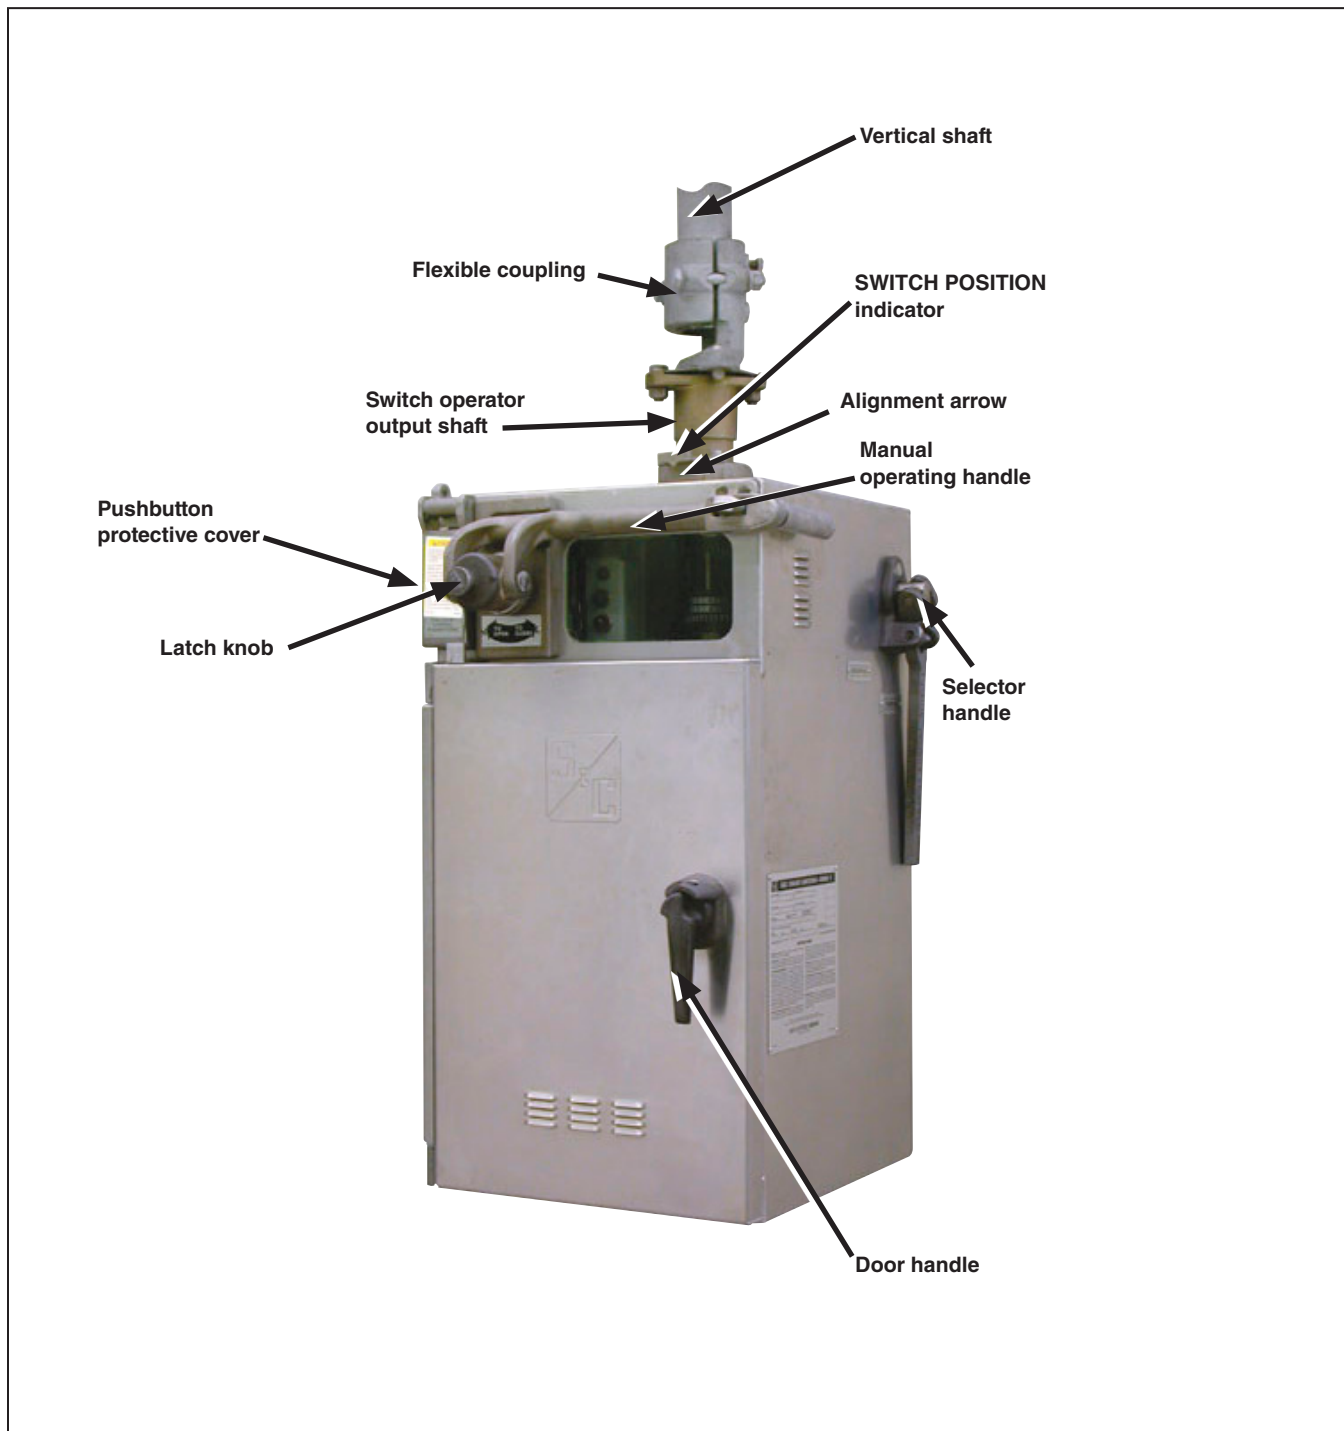
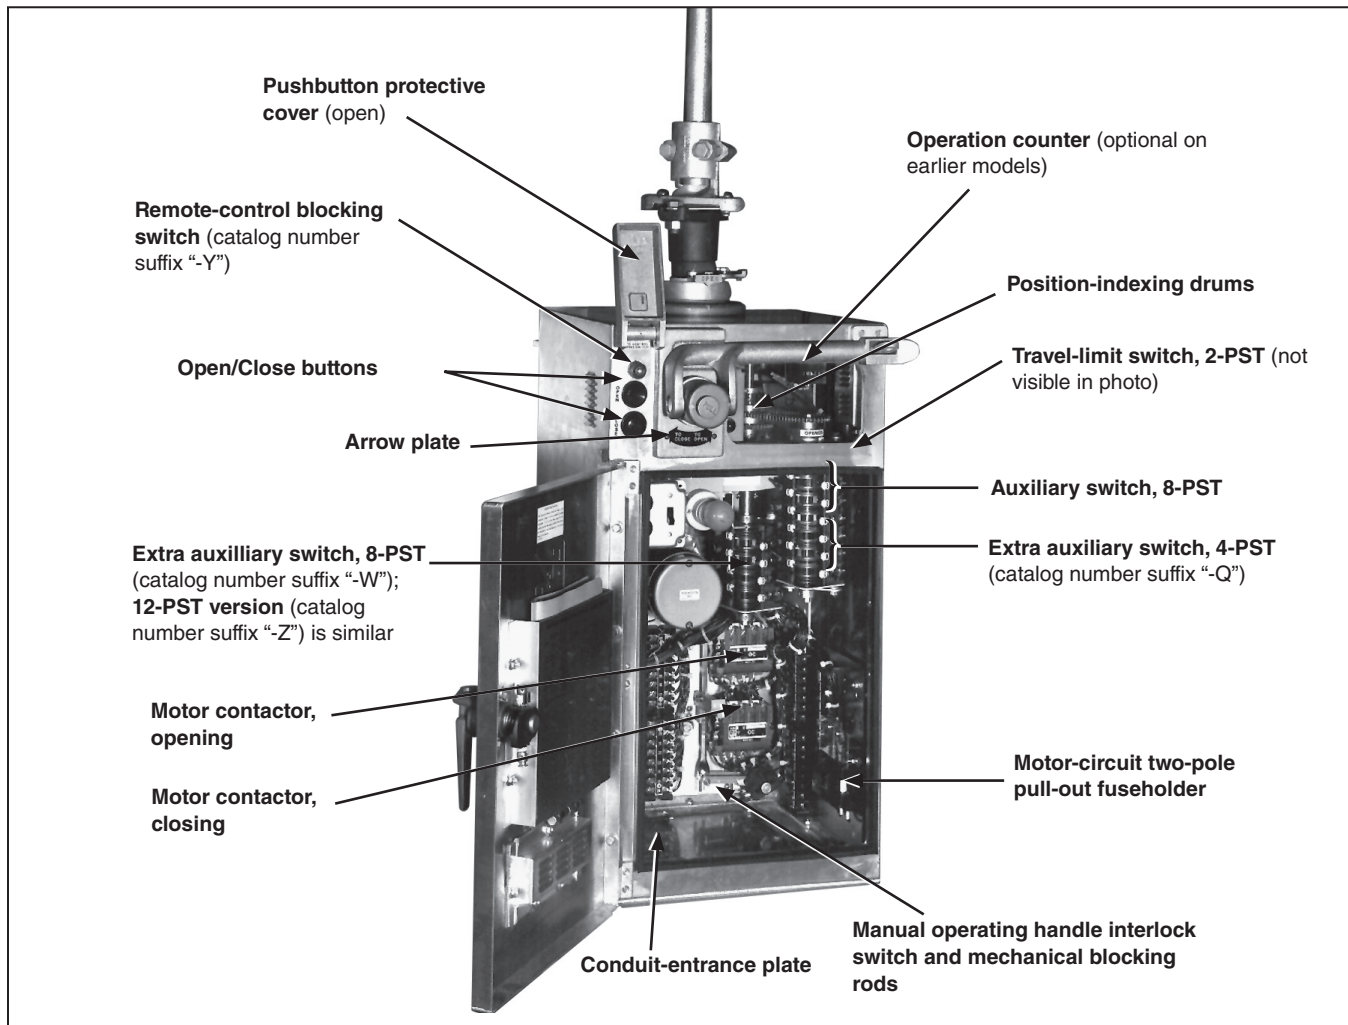
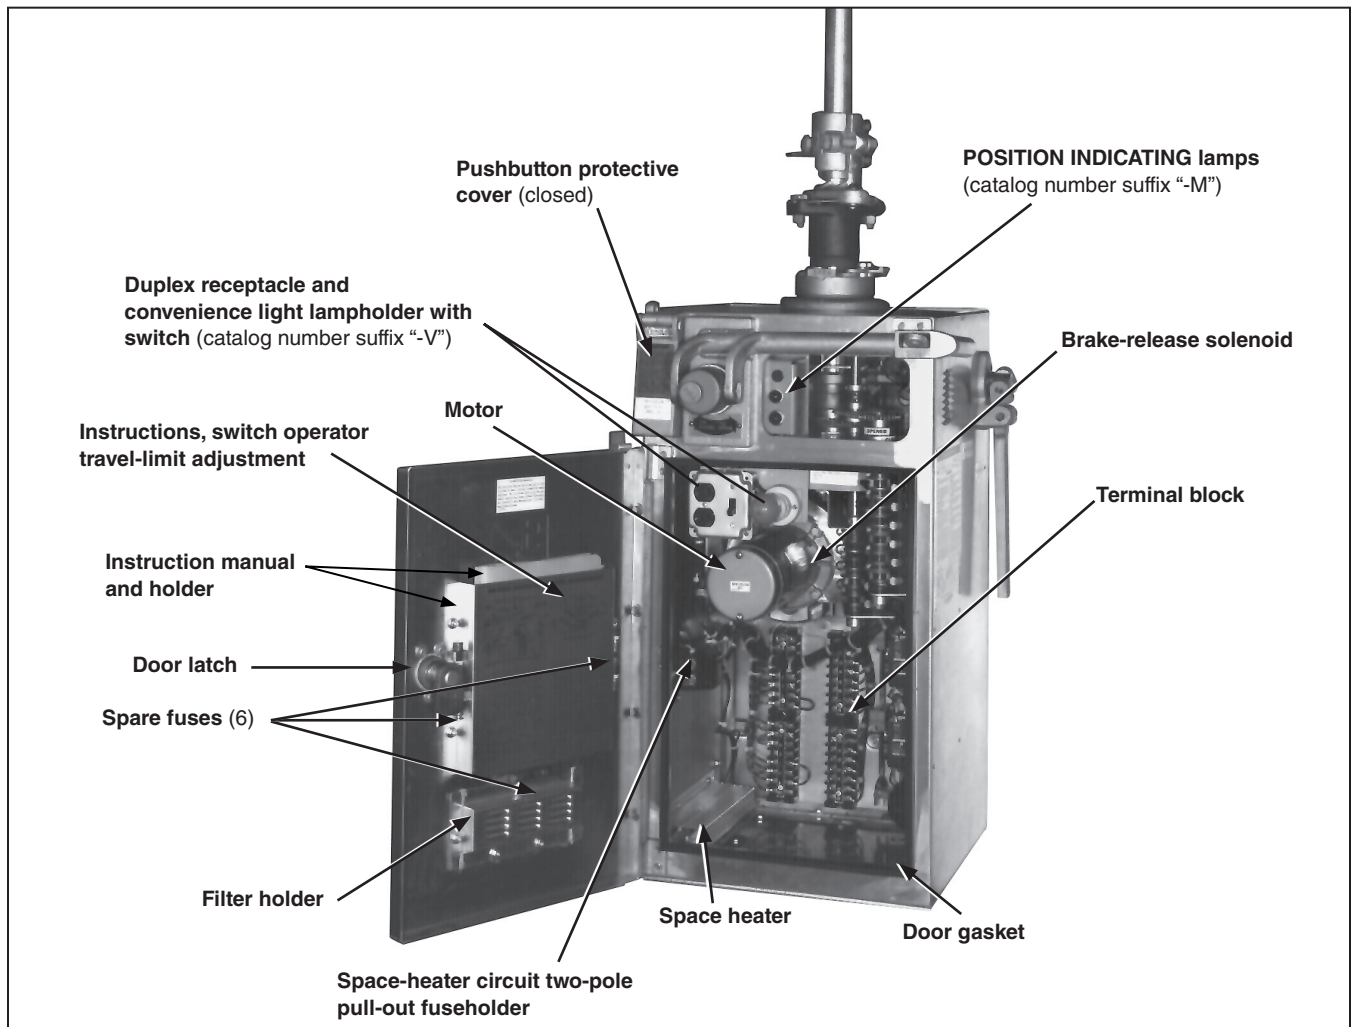
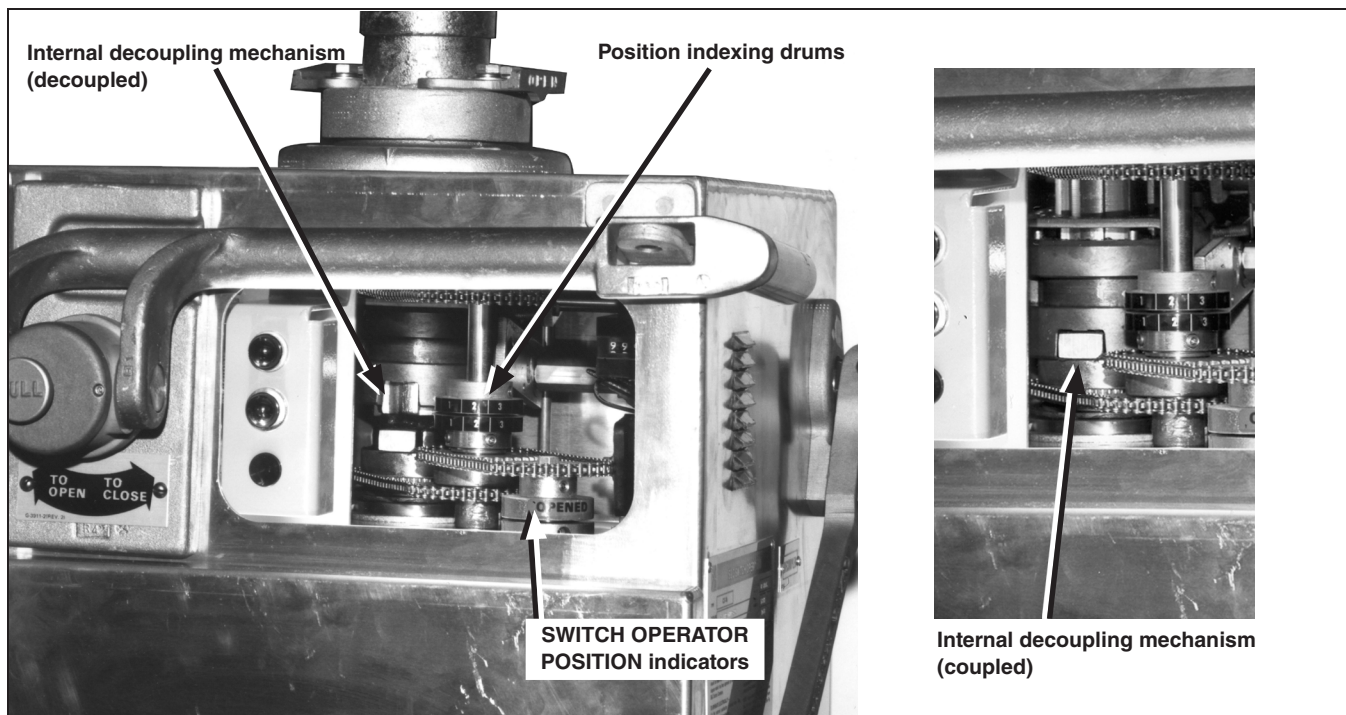

Figure 1. An external view of a Type AS-1A Switch Operator with the door closed.
Figure 2. An interior view of a Type AS-1A Switch Operator with the door open.
Figure 3. An interior view of a Type AS-1A Switch Operator
Figure 6. Views of the switch operator through the observation window.
Become familiar with the parts of the Type AS-1A Switch Operator as shown in Figure 1 on page 9, Figure 2 on page 10, and Figure 3 on page 11.
- The switch operator position indicator, Figure 6 on page 16, signals “OPEN” or “CLOSED” to indicate that the switch operator has moved through a complete operation. Also note the POSITION INDICATING lamps, Figure 3 on page 11, if furnished.
- The Alduti-Rupter Switch position indicator, located on the switch operator output shaft, Figure 1 on page 9, is in agreement with the SWITCH OPERATOR POSITION indicator. That is, both indicators should simultaneously show “OPEN” or “CLOSED.”
- STEP 2.** Press the appropriate pushbutton.■ See Figure 2 on page 10.
The selector handle will be used during switch operator adjustment. The integral external selector handle, for operation of the built-in internal decoupling mechanism, is located on the right-hand side of the switch operator enclosure. Become familiar with the operation of the selector handle, as described on the switch operator nameplate on the right-hand side of the enclosure. See Figure 1 on page 9.
Visual inspection, through the observation window, will verify whether the internal decoupling mechanism is in the **Coupled** or **Decoupled** position. See Figure 6 on page 16.
- STEP 1.** Manually operate the switch operator to bring it to the same **Open** or **Closed** position as the Alduti-Rupter Switch. The SWITCH OPERATOR POSITION indicator, seen through the observation window, will show when the approximate **Open** or **Closed** position has been attained. See Figure 6.